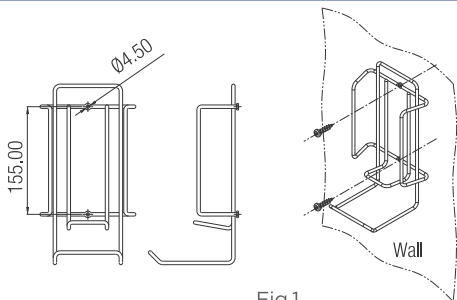

Fig.1
1. Drill two holes vertically on the wall at a distance of 155mm & fit the Iron Rack to the wall using screws as shown in Fig.1.